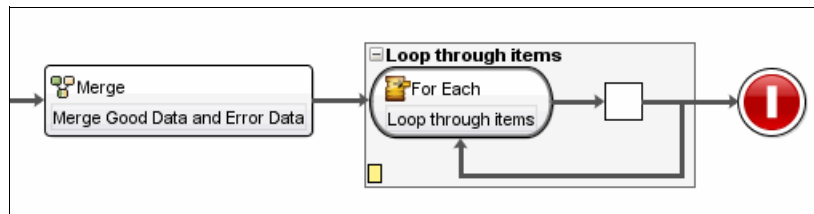

Figure 12-64 For Each activity
- Select the Activities tab, and drag **Logic** → **For Each** to the right side of the Merge activity. Make sure that you rename it to **Loop through items**, as shown in Figure 12-64: